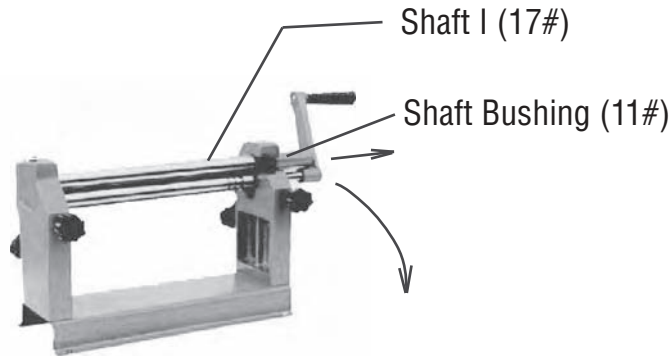

Figure 4
6. If you are only performing partial rolls and need to remove the material, slide out the Shaft Bushing (11#) and pull Shaft I (17#) forward. **See Figure 4.**